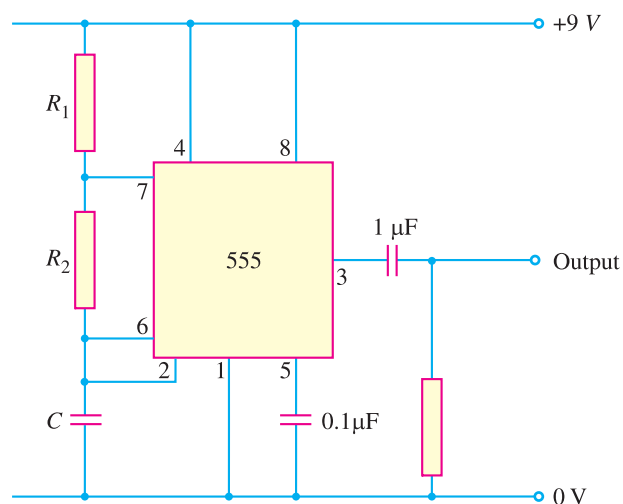

Fig. 23.18
(iv) **The 555 Timer as astable multivibrator.** Fig. 23.18 shows the 555 timer as an astable multivibrator. Note that the circuit contains two resistors (R_1 and R_2) and one capacitor (C) and does not have an input from any other circuit. The lack of a triggering signal from an external source is the circuit recognition feature of the astable multivibrator.
Example 23.3. Determine the frequency of the circuit shown in Fig. 23.18. Given that $R_1 = 3 \text{ k}\Omega$; $R_2 = 2.7 \text{ k}\Omega$ and $C = 0.033 \text{ }\mu\text{F}$.